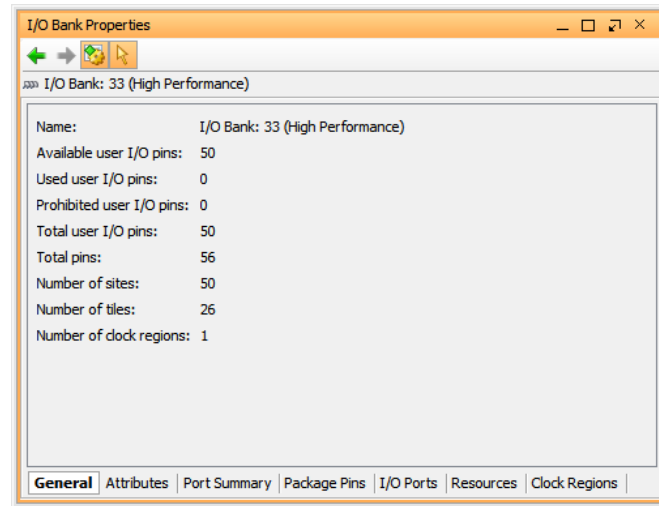

Figure 7: I/O Bank Properties
8. **Select** the **various tabs** at the bottom of the I/O Bank Properties view, as seen in Figure 7.